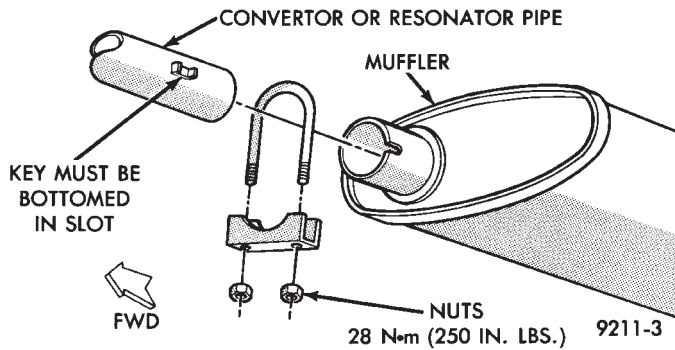

Fig. 4 Exhaust (Converter/Resonator) Pipe to Muffler
- (1) Raise vehicle on hoist and apply penetrating oil to clamp bolts and nuts of component being removed.
- (2) Remove clamps and supports (Figs. 4, 5, and 6) from exhaust system to permit alignment of parts during assembly.
- (3) When removing tailpipe, raise rear of vehicle to relieve body weight from rear springs to provide clearance between pipe and rear axle parts.
- (4) Clean ends of pipes or muffler to assure mating of all parts. Discard broken or worn insulators, rusted clamps, supports and attaching parts.